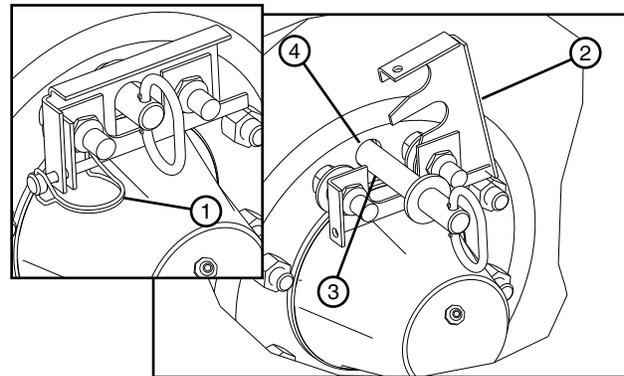

Figure 78-2 1. Lynch Pin 2. Retainer Clip 3. Torque Pin 4. Hub Torque Pin Receiver
4. Remove the torque pin from the hub torque pin receiver of both cart wheels. This will allow both wheels to rotate. See Figure 78-2.
5. Tie the machine to the anchor with a load binder attached to one of the short chains on the drive unit depending on the direction the machine will be rotated. See Figures 78-2.